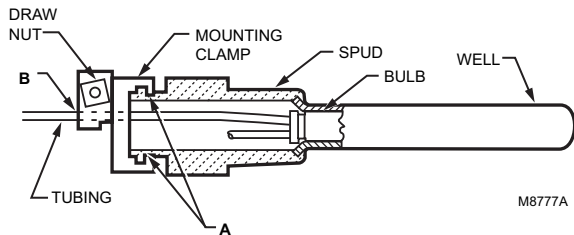
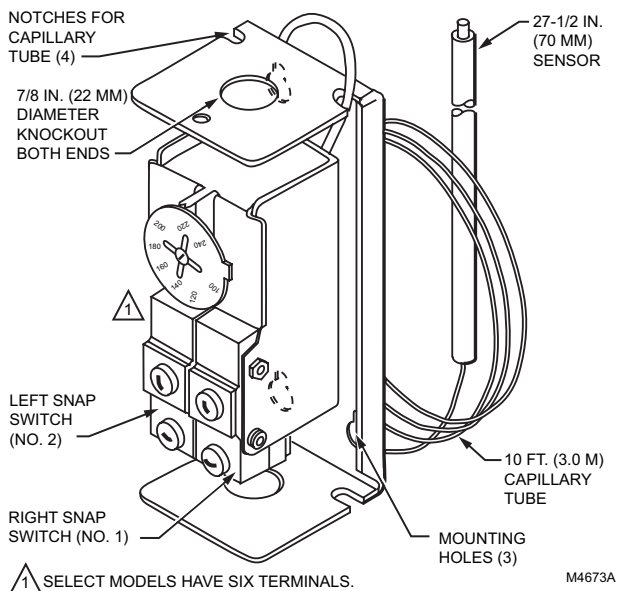
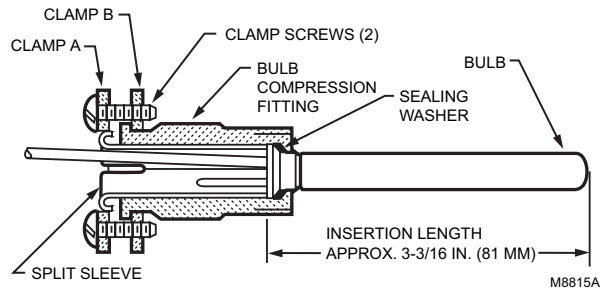
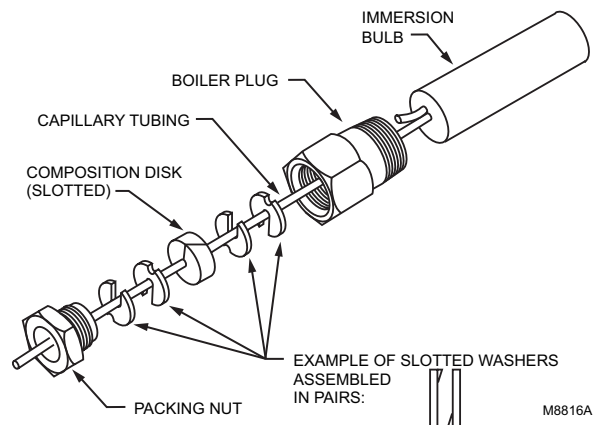

Fig. 8. Immersion well fitting.
Fig. 9. Internal view of L4008L or L6008G.
Fig. 10. Bulb compression fitting. Use with L4006A,B; L6008A.
Fig. 11. Capillary compression fitting. Use with L4008.
The remote temperature-sensing bulb can either be installed in an immersion well (See Fig. 8) that extends into the boiler or tank, or it can be directly immersed in the controlled medium (See Fig. 9). For installations that do not use a well, secure the remote bulb with a bulb compression fitting (See Fig. 10), or capillary compression fitting. (See Fig. 11).
Order well, well adapter, bulb compression fitting or capillary compression fitting separately. See form no. 68-0040, Wells and Fittings for Temperature Controllers. If used, well must snugly fit sensing bulb for the best thermal response. Insert bulb until it rests against the bottom of the well. Hold it there while tightening the tubing clamp. (See Fig. 8).
3. Attach the retainer clamp to the end of the well spud. Loosen the draw nut and spread the jaws of the clamp with the screwdriver if necessary. (See Fig. 8).
4. With the retainer clamp attached to the well spud (be sure the jaws of the clamp hook over the ridge at the end of the spud, as shown at points A in Fig. 8), adjust the tubing to fit through the retainer clamp groove, as shown at point B in Fig. 8.
4. Slide the split sleeve into the fitting. (See Fig. 10).
4. Place the composition disk and four slotted brass washers on the tubing in the order shown in Fig. 11. Turn the brass washers so the slots are 180 degrees apart.